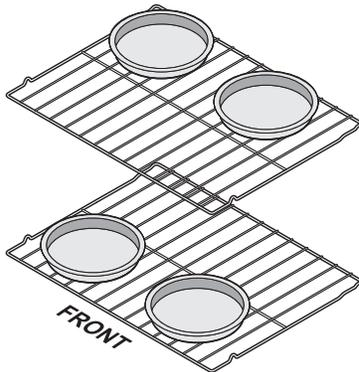

Figure 12: Pan positions two rack baking
- When baking using two oven racks, position cookware as shown in Figure 12. Allow at least 2 inches (5 cm) of space between cookware for proper air circulation.